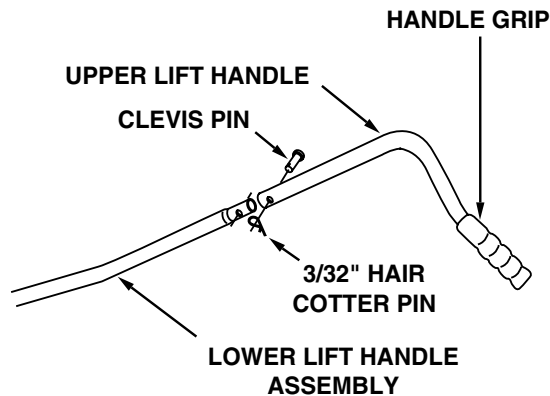

Figure 12
22. Assemble the handle grip onto the upper lift handle. See figure 12.
23. Place the upper lift handle onto the lower lift handle assembly. Align the holes and secure with the clevis pin and a 3/32" hair cotter pin. See figure 12.